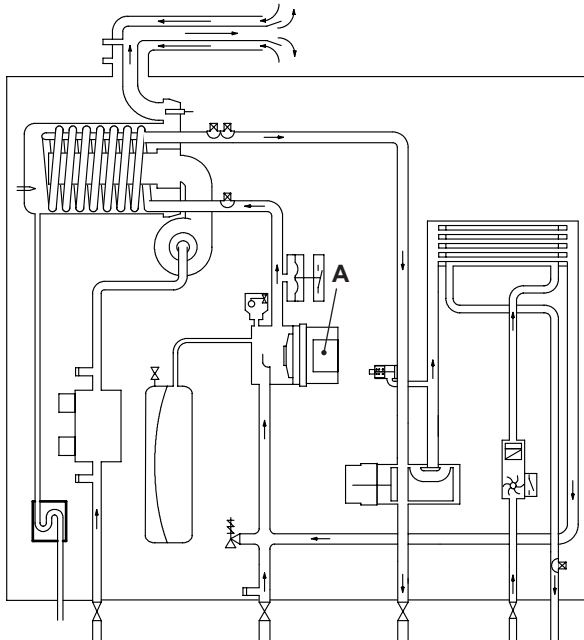
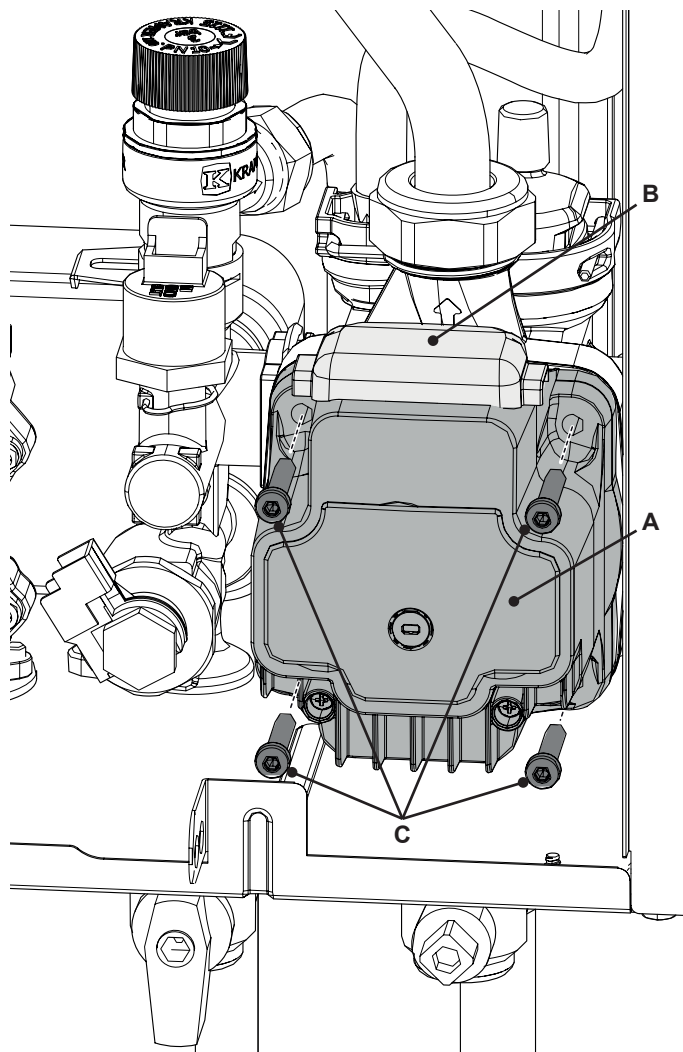

Figure 7.1
Figure 7.2
The pump "A" in Figure 7.1 and Figure 7.2 has the function of making the water in the main circuit circulate through the main condensing heat exchanger and therefore through the C.H. system (during the C.H. function) or through the secondary heat exchanger (during the D.H.W. function).
- 3 Disconnect the connector "B" (Figure 7.2).